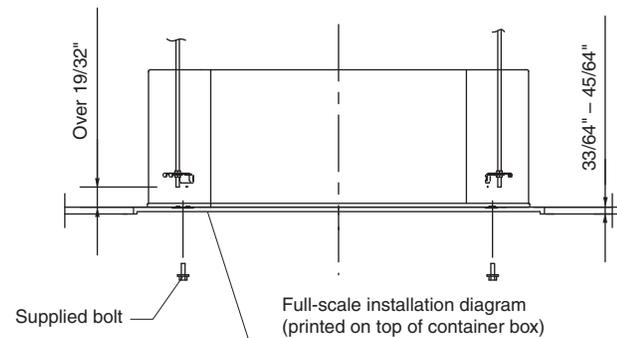

Fig. 3-31
- (1) When placing the unit inside the ceiling, determine the pitch of the suspension bolts using the supplied full-scale installation diagram. (Fig. 3-31)
- (2) The length of suspension bolts must be appropriate for a distance between the bottom of the bolt and the bottom of the unit of more than  $19/32$ " as shown in the diagram. (Fig. 3-31)